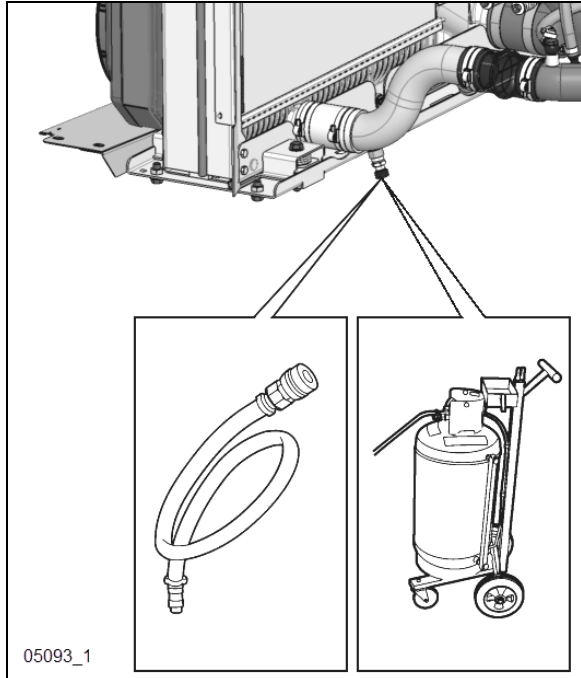

FIGURE 20: EXTRACTING COOLANT
5. Connect coolant extractor (Figure 20). Use coolant extractor to drain the coolant from the engine. An alternate method is to drain the coolant into a suitable container using the drain hose.